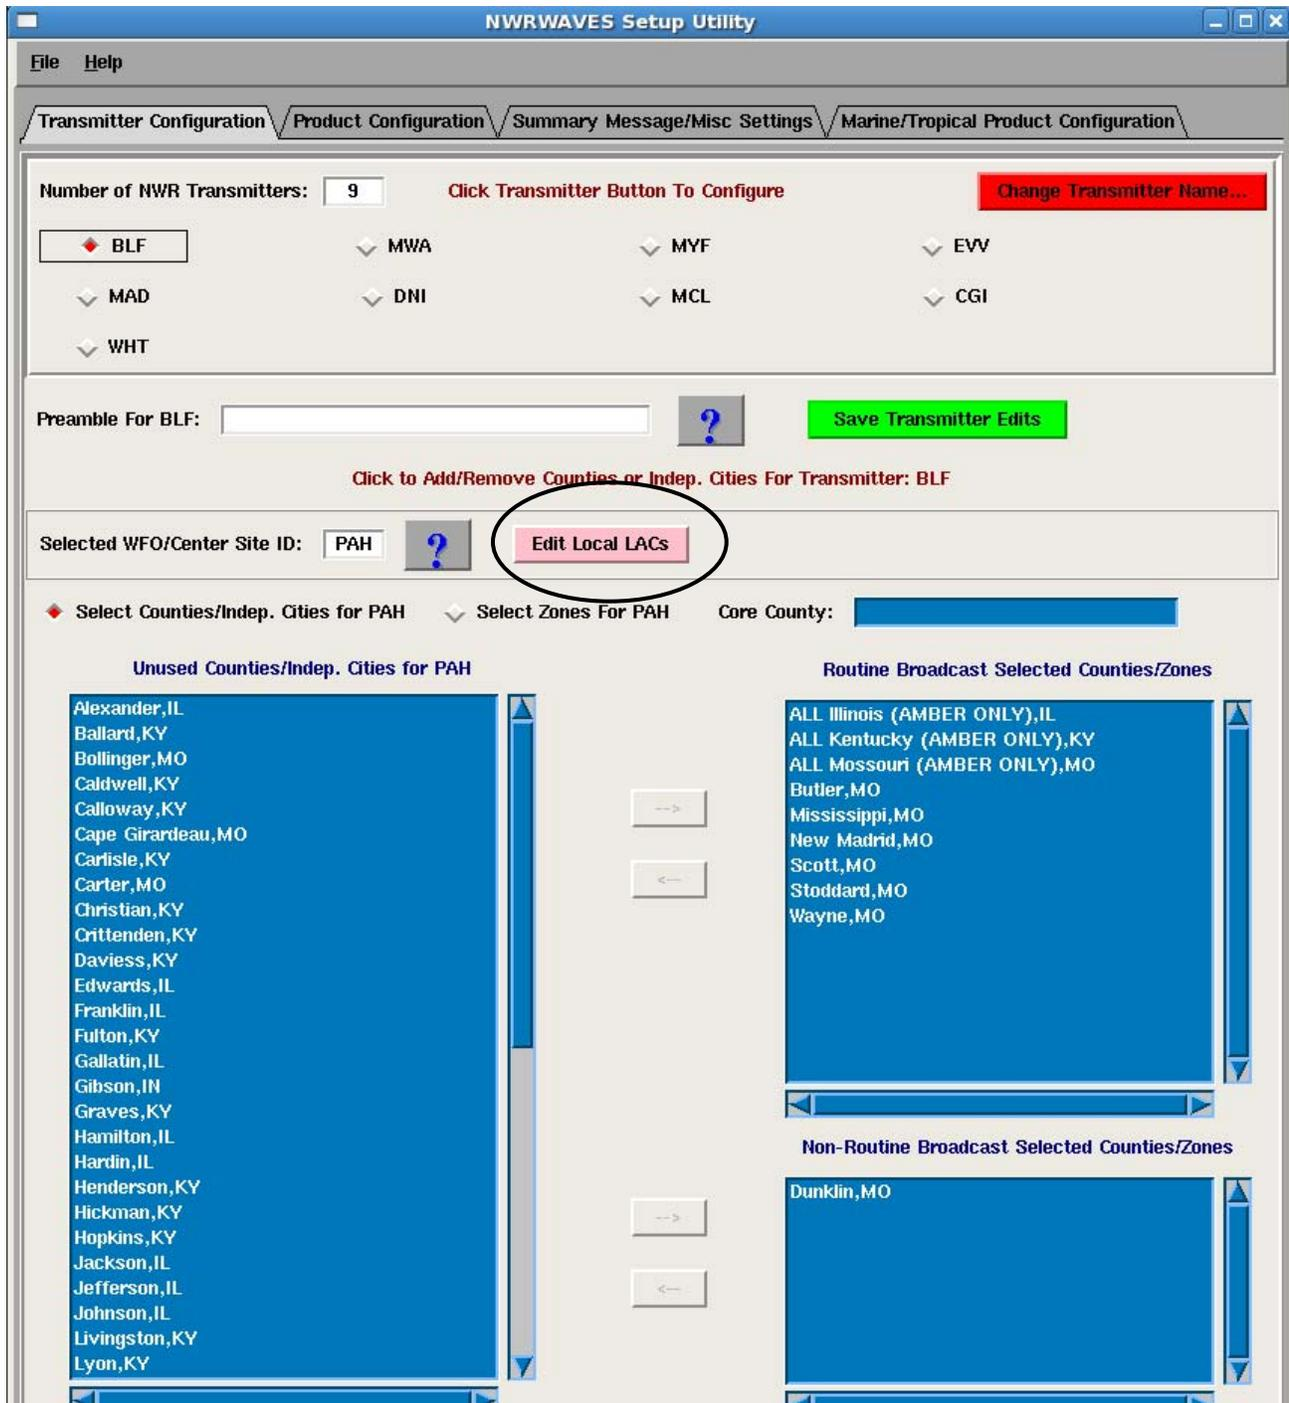

Figure A-2: Example of the NRRWAVES Product Configuration Window
To examine/change the NWRWAVES settings for each of the 18 Non-Weather Emergency products, use the NWRWAVES setup utility window (Figure A-2; see NWRWAVES Users Manual).
2. Select NRRWAVES setup utility window from NRRWAVES browser. The *Transmitter Configuration* tab displays (Figure A-2). The first transmitter (BLF in Paducah's case) will be selected by default.
3. Click the **Edit Local LACs** button (circled in Figure A-2). The *NRRWAVES LAC Editor* displays (Figure A-3).